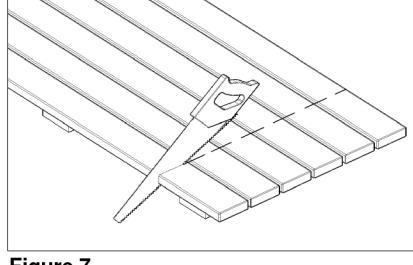

Figure 7
- Now also cut the bench grid to measure. After cutting, the bench grid has to be the same length as the bench frame. (Figure 7)